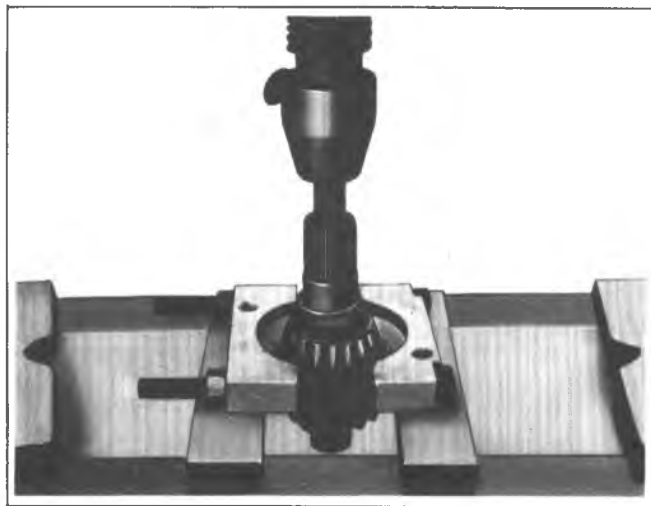

Fig. 11E-Removing Pinion Rear Bearing
8. To remove the rear bearing, use J-22912 as shown in figure 11E.